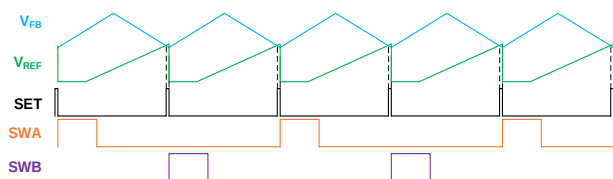

Figure 5: Dual-Phase Interleaving Mode
When buck A and buck B work in interleaving parallel mode, the phase shift between buck A and buck B changes to 180° (see Figure 5 on page 18). Buck C and buck D cannot work in interleaving mode, with the phase shift remaining at 90°.
Figure 5 on page 18 shows the internal SET signal that is triggered when buck A or buck B's feedback (FB) signal is smaller than the internal REF signal. When the SET signal becomes high, only one phase's pulse-width modulation (PWM) output becomes high; the next time SET goes high, the next phase's PWM output goes high. This achieves automatic interleaving.